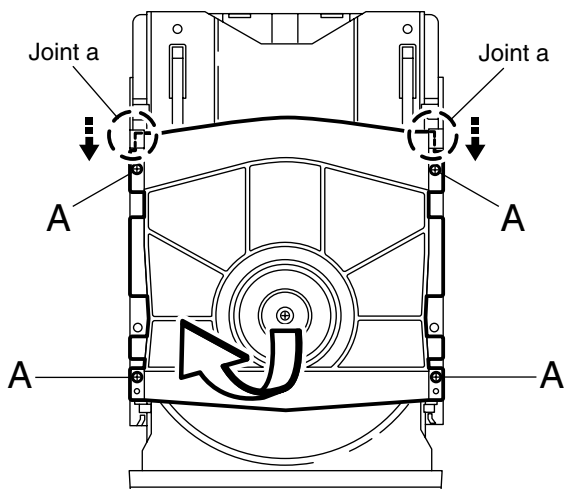

Fig.1
■ Removing the top cover (see Fig.1)
■ Removing the clamber assembly (See Fig.1)